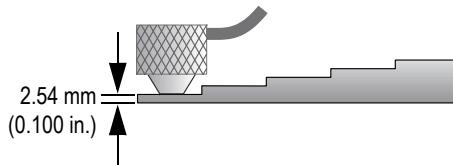

Figure 5-6 Sound velocity calibration on a five-step test block — Thin part
- b) Couple the transducer to the thin part of the test block (see Figure 5-6 on page 66), and then press **[CAL ZERO]**.